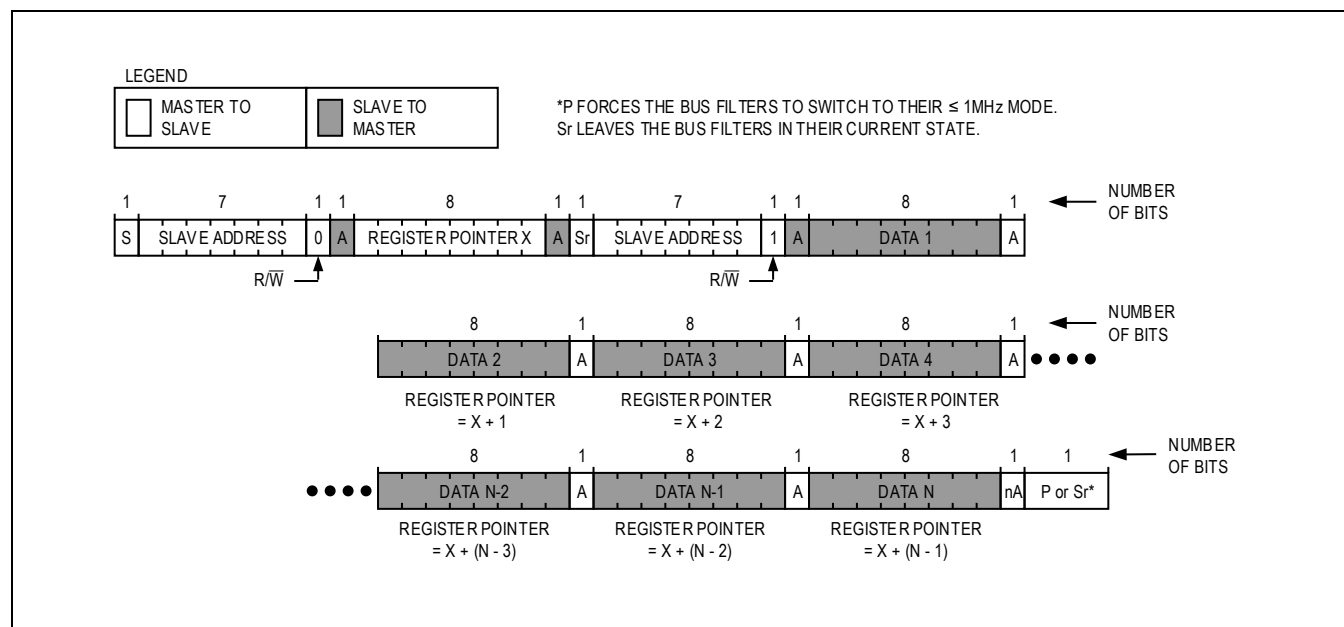

Figure 16. Reading from Sequential Registers
Figure 16 shows the protocol for reading from sequential registers. This protocol is similar to the “Read Byte” protocol, except the master device issues an ACKNOWLEDGE (A) to signal the slave device that it wants more data. When the master device has all the data it requires, it issues a NOT-ACKNOWLEDGE (nA) and a STOP condition (P) to end the transmission.